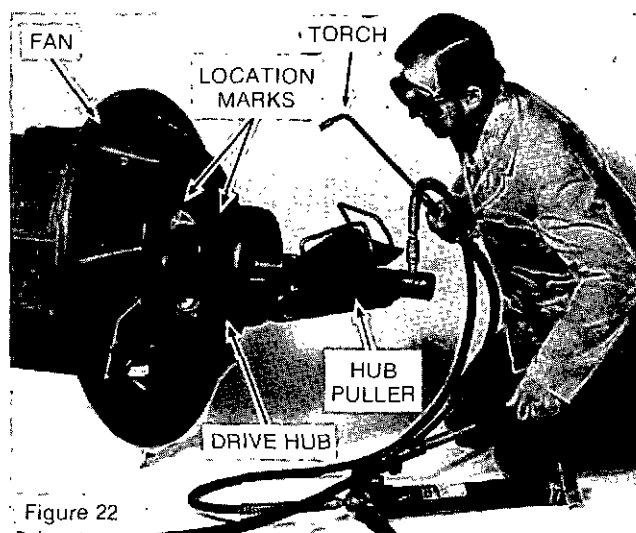

Figure 22
2. If the hub is to be replaced, mark the fan and hub for alignment to ensure proper balance after reassembly. Remove the fan mounting capscrews and belleville washers and move the fan back away from hub. (See Figure 22.) Install a suitable puller to the hub. Remove the setscrew in the hub over the key. Using a torch, rapidly heat the hub at the outer diameter while tightening the puller. (This must